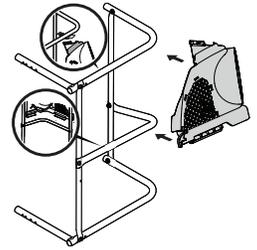

Figure 7
- Snap bag vent (731-12351B) in place by rotating and placing the upper tab as shown in Figure 7, then clipping the bottom portion onto the bag vent mount tube (see lower inset, Figure 7).